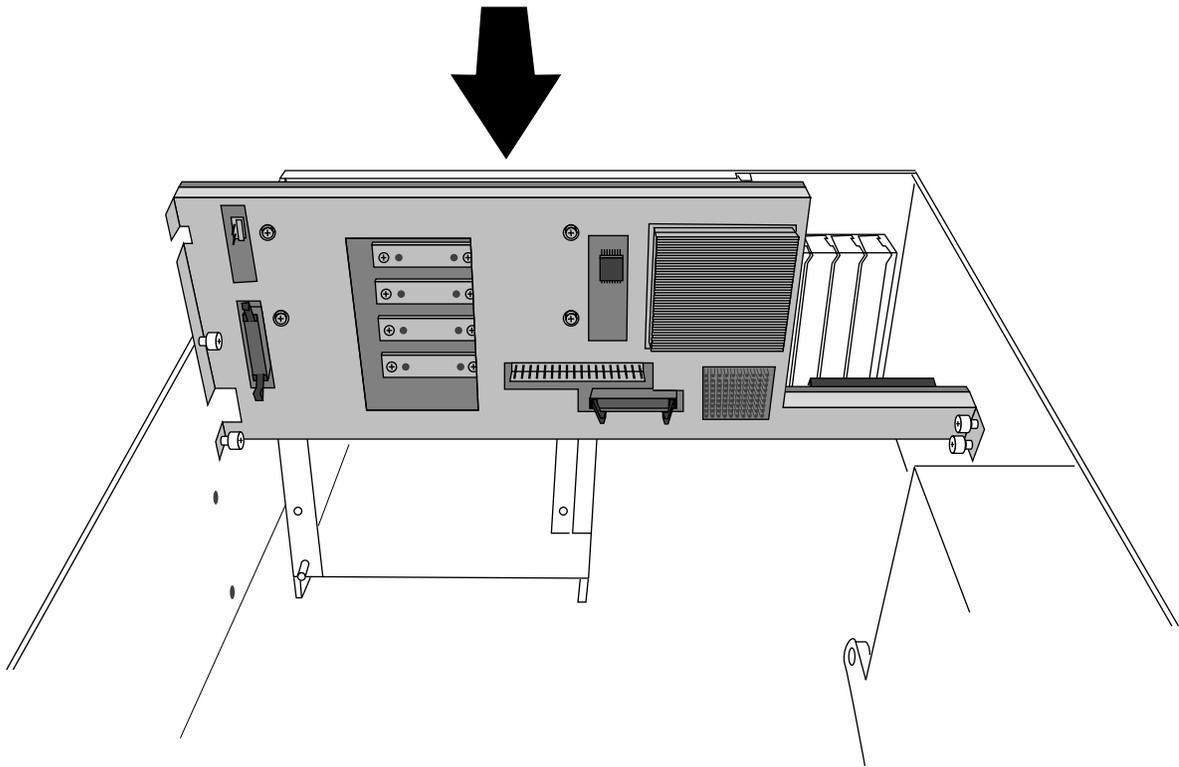

Figure 5-39 Installing a Midplane in a GIGACHannel Chassis
1. Lower the new midplane into the GIGACHannel chassis, as shown in Figure 5-39.